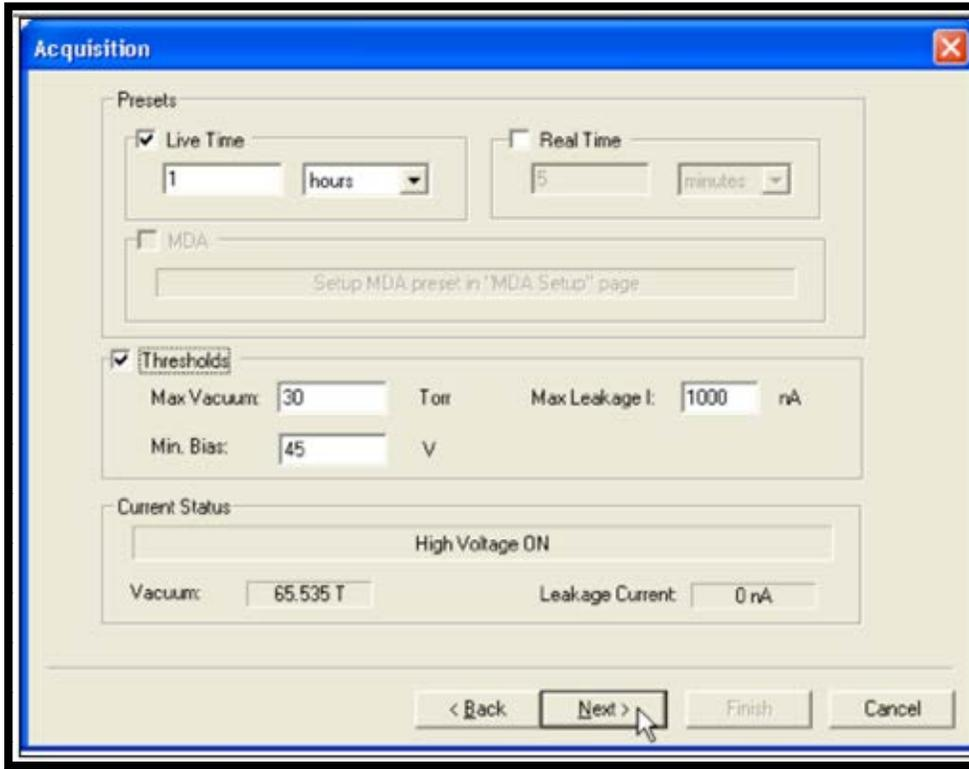

Figure 156. Acquisition Page
- 2) The Acquisition page (Figure 156) is discussed in Section 7.1.2. Enter a **Live Time** for the calibration. Users may also elect to use the pressure and leakage current **Thresholds**. In this exercise, use a **Max Vacuum** of 30 Torr, a **Min Bias** of 45V, and a **Max Leakage I** of 1000 nA.